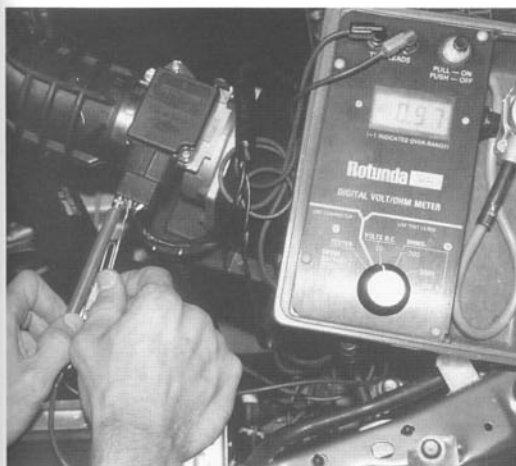

Fig. 3-1. Checking Mass Air Flow (MAF) sensor output with engine running.
3. Next check MAF circuit output. With the MAF sensor reconnected, backprobe connector as shown in Fig. 3-1.